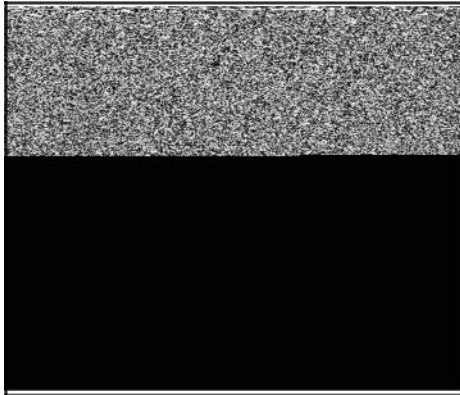

Figure 23
1. Insert RED test lead (A, Figure 23) into the V Ω receptacle in the meter.
2. Insert BLACK test lead (B) into COM receptacle.
4. Attach RED test lead clip to AC output terminal (C).